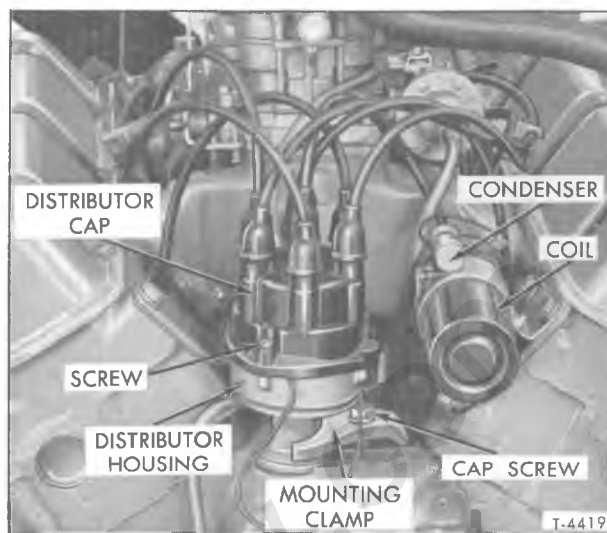

Figure 5—Distributor and Ignition Coil Installed (V6 Engine) (Typical)
3. On 305-C or 305-E engines, set timing to  $7\frac{1}{2}^{\circ}$  before upper-dead-center and on 351-C or 351-M engines, set timing to  $10^{\circ}$  BUDC. If timing mark does not align with pointer, loosen distributor mounting clamp cap screw (fig. 5) and rotate distributor body as required to synchronize timing light flashes with timing mark on engine crankshaft pulley.
Distributor used on V-6 engines is mounted on top center of cylinder block at rear end and is driven from the engine camshaft by spiral cut gears. A gasket is used between flange on distributor housing and cylinder block. The distributor is held in place by a mounting clamp and cap screw (fig. 5). The drive gear, secured on lower end of distributor shaft, by a rivet or roll pin, has a hexagonal opening in lower end which engages end of oil pump shaft to drive the oil pump. Model number is stamped on the distributor housing.